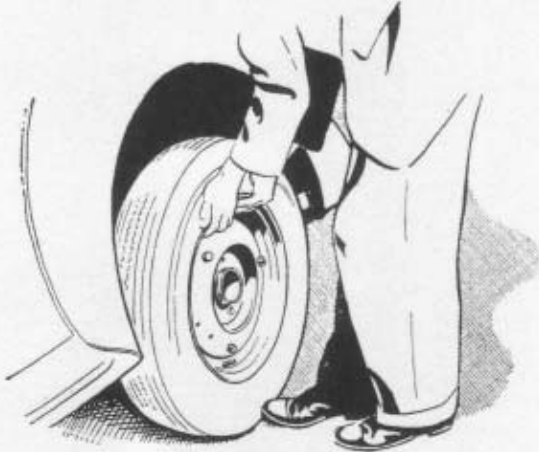

Fig. 26.—MOUNTING REAR WHEEL.
1. Roll the spare wheel under the hub, the top of the wheel being inclined outwards, then with a foot at the bottom of the wheel, lift by the rim on to the hub extension, as shown in Fig. 26.
**Front.**—Position the wheel on the hub extension as described for the rear wheel (1). (See Fig. 26.)